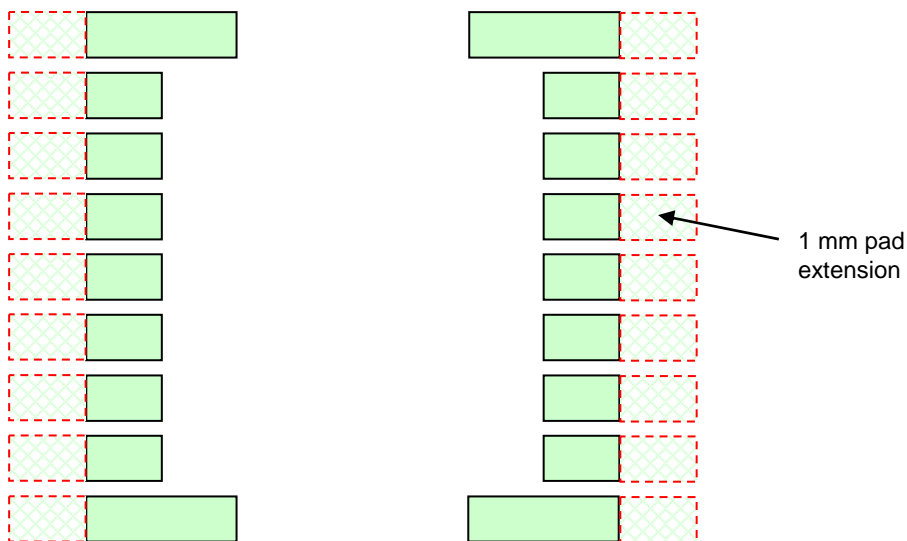

Figure 11. Recommended PWB land pad lengthening for and soldering.
To make the manual hand soldering with soldering iron easier, VTI recommends increasing the PWB land pads length toward the outside of the package by up to 1mm, as shown in Figure 11 below. This extra area is helpful when soldering iron is being used. The hand soldering method is presented in more detail below.
3. **i)** Melt the solder paste by putting the part through reflow oven **or ii)** by using soldering iron. When using soldering iron, do not touch the package plastic body, soldering iron should touch only the extension in the PWB's land pad through that the heat should be conducted to melt the solder paste and then form the solder joint to the component lead. See figure 11 above for details.